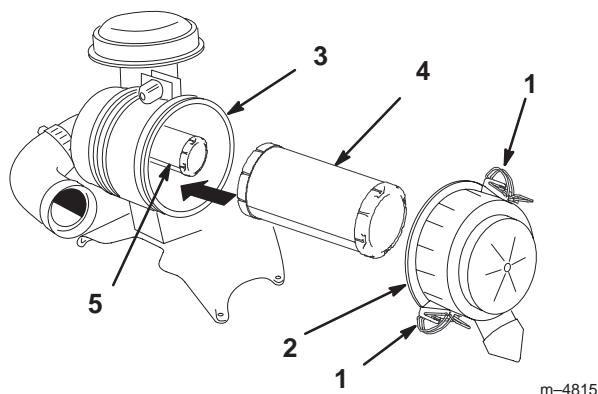

Figure 40
3. Release the latches on the air cleaner and pull the air cleaner cover off of the air cleaner body (Fig. 40).
5. Gently slide the primary filter out of the air cleaner body (Fig. 40). Avoid knocking the filter into the side of the body.
2. If the safety filter is being replaced, carefully slide it into the filter body (Fig. 40).
3. Carefully slide the primary filter over the safety filter (Fig. 40). Ensure that it is fully seated by pushing on the outer rim of the filter while installing it.
4. Install the air cleaner cover with the side indicated as **UP** facing up and secure the latches (Fig. 40).